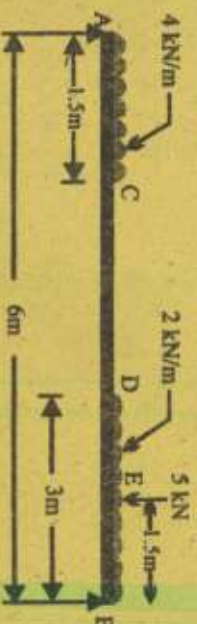

Fig.13.21
7. A simply supported beam AB, 6m long is loaded as shown in fig.13.21. Construct the shear force and bending moment diagrams for the beam and